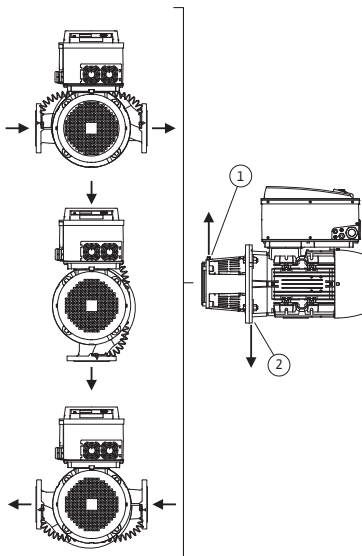
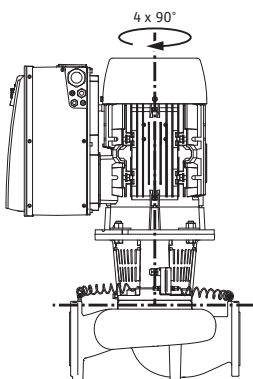

Fig. 18: Permitted installation positions with horizontal motor shaft
Fig. 19: Permitted installation positions with vertical motor shaft
The permitted installation positions with horizontal motor shaft and electronic module facing up (0°) are shown in Fig. 18. The permissible installation positions with electronic module mounted on the side (+/-90°) are not shown. Any installation position is allowed except for “electronic module facing down” (-180°). The venting of the pump is only ensured when the air vent valve is pointing upwards (Fig. 18, Item 1).
Only in this position (0°) can condensate be directed away via an existing drilled hole, pump lantern and motor (Fig. 18, Item 2).
The permitted installation positions with vertical motor shaft are shown in Fig. 19. All installation positions except for “motor facing down” are allowed.
- The air vent valve at the lantern (Fig. 6, Item 1.31) must always face upwards if the motor shaft is horizontal (Fig. 6a and Fig. 6b). If the motor shaft is vertical, any orientation is permitted. See also Fig. 18: "Permitted installation positions with horizontal motor shaft" on page 86 and Fig. 19: "Permitted installation positions with vertical motor shaft" on page 86.
- With a horizontal motor shaft, the condensate hole must be positioned towards the bottom (Fig. 18, Item 2). If necessary, the motor must be turned accordingly.